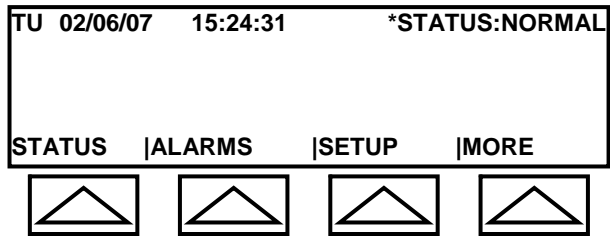

Fig. 4-3a: Main Menu – Screen #1
All programming begins at the MAIN Menu, which has a total of six screens (see Figures 4-3a through 4-3f). To advance from one screen to the next, select MORE on the bottom line of the LCD (press the arrow key directly beneath it). Selecting MORE in Screen #6 will return the LCD to Screen #1.
The fourth line has ENTER and EXIT fields. The ENTER field will be selected after entering all of the data on the third line. If the EXIT field is selected, the LCD display will return to Screen #1 of the Main Menu (see Figure 4-3a) without entering the data.
*Note: To return to the MAIN Menu from the Location Submenu, select EXIT and then press the **MENU** key. The LCD returns to Screen #1 of the MAIN Menu (see Figure 4-3a).*